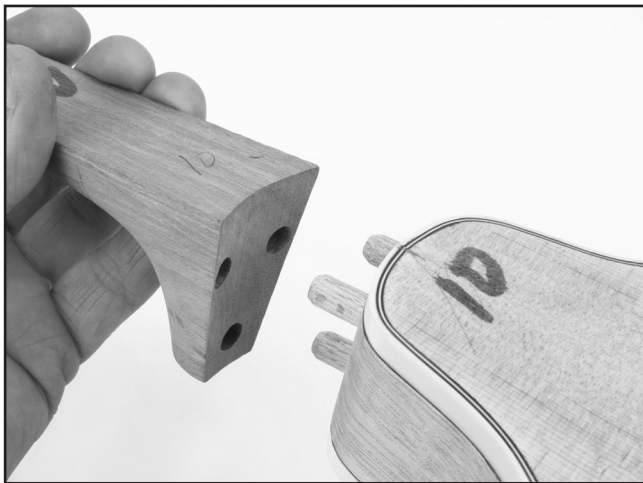

Figure 3. Test fitting the neck.
1. Test fit the neck by pushing the dowels into the body of the mandolin and sliding the neck onto the dowels as shown in **Figure 3**. DO NOT glue the joint at this time.